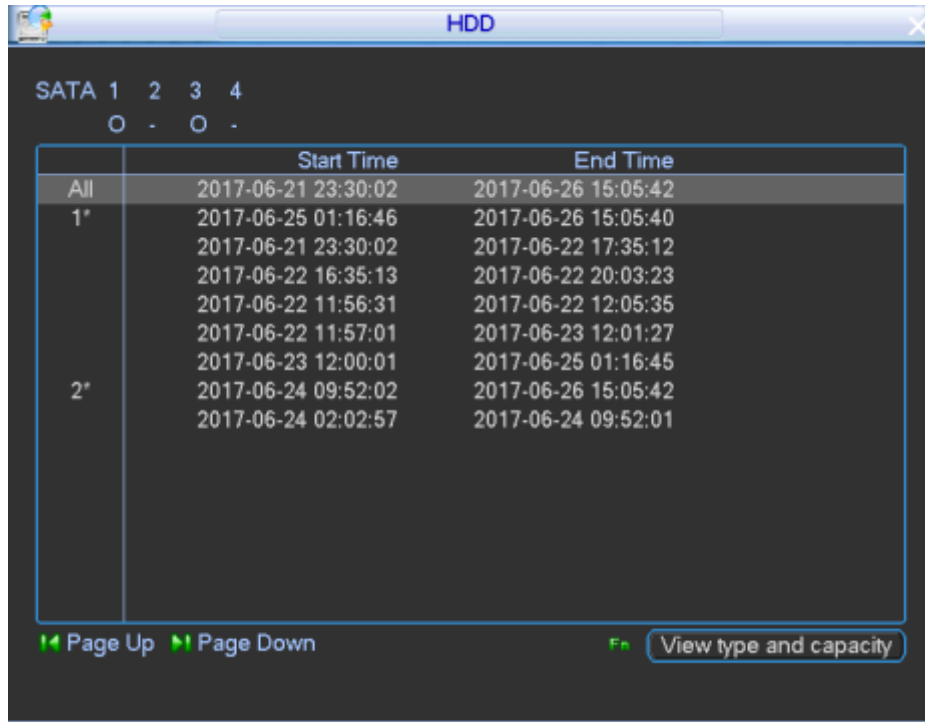

Figure 4-88
- Step 2 In Figure 4-87, click View recording time button, the interface is shown as in Figure 4-88.